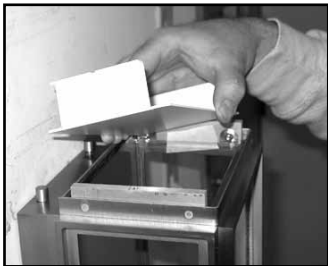

Figure 7
Step 9 Remove the screws from the internal glass retainer bracket and lift the bracket from the framed housing. (Fig 7)